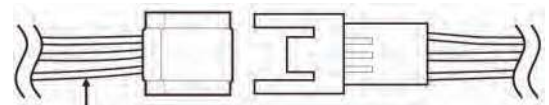

Fig.3
- ④ Connect harness between the unit and the Backup Heater until it clicks into place.(Fig. 3).
- ⑤ Use the cord clamer to fix the cable through low voltage hole.